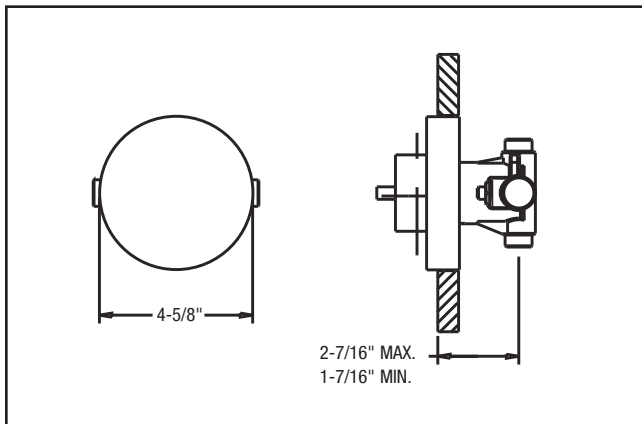

Figure 5
- When piping installation is complete and before doing the finished wall, slide rough-in guide onto the mixer stem and press into place (see Figure 5).